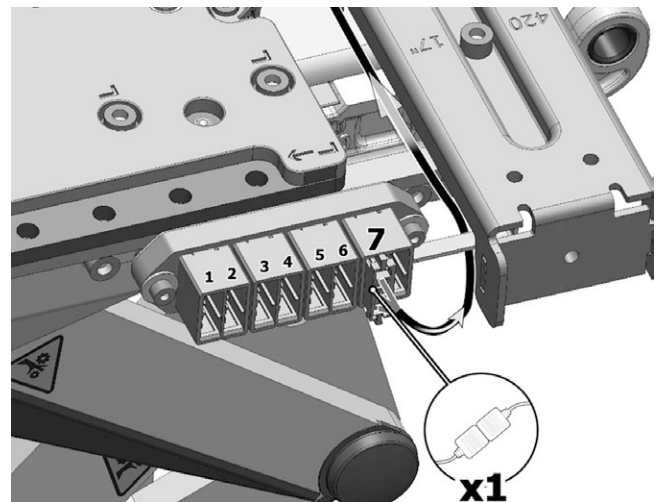

Figure 100. The ICS bus cable is connected to the seventh position of the connector block.
8. Connect the cable that connects the ISC Master Module to the contact block at the seat frame. See fig. 100. Mount the cable to its cable brackets on the seat frame. See *Rnet and ICS bus cable mounting*, Page 83.